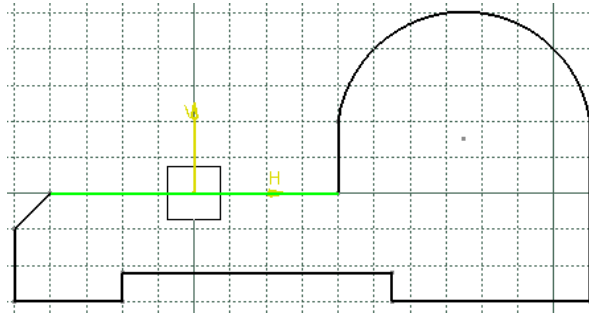

Figure 2-84 The completed outer loop of the sketch
22. Choose the **Fit All In** button from the **View** toolbar to fit the current sketch into the screen. The completed outer loop of the sketch is shown in Figure 2-84. Note that in this figure, the display of constraints and dimensions is turned off using the **Hide/Show** tool for clarity.